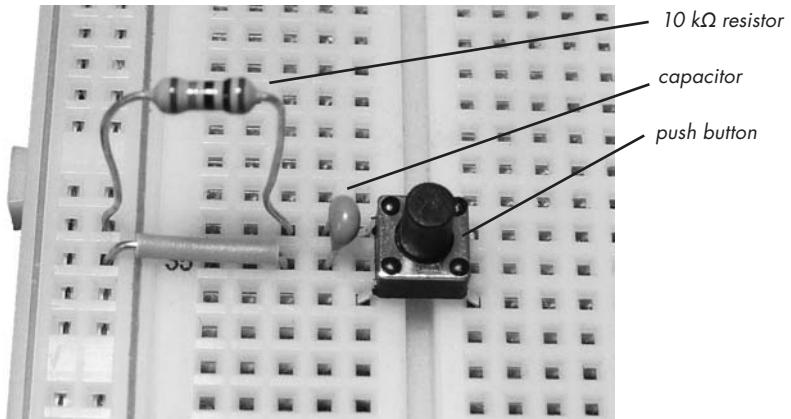

Figure 4-21: 10 k Ω resistor, capacitor, and push button
2. Turn the breadboard 90 degrees counterclockwise and insert the 10 k Ω resistor, a short link wire, and the capacitor, as shown in Figure 4-21.